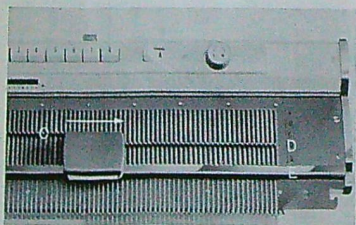

Fig. 18
(6) The needles in position "D" will move back to position "C". (See Fig. 18)